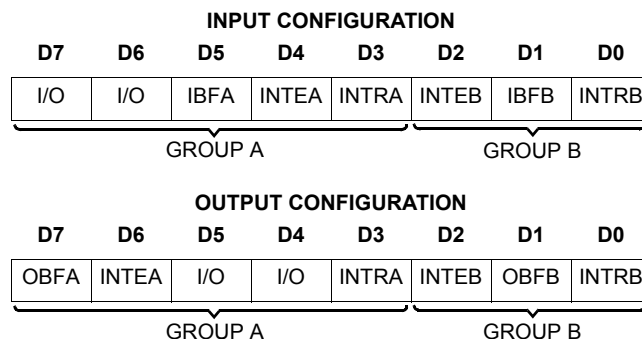

FIGURE 15. MODE 1 STATUS WORD FORMAT
**Reading Port C Status** (Figures 15 and 16)